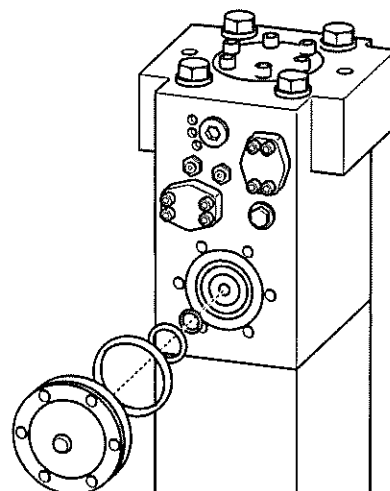

Fig. 15
- Removing the O-ring and back-up ring (Fig.15).